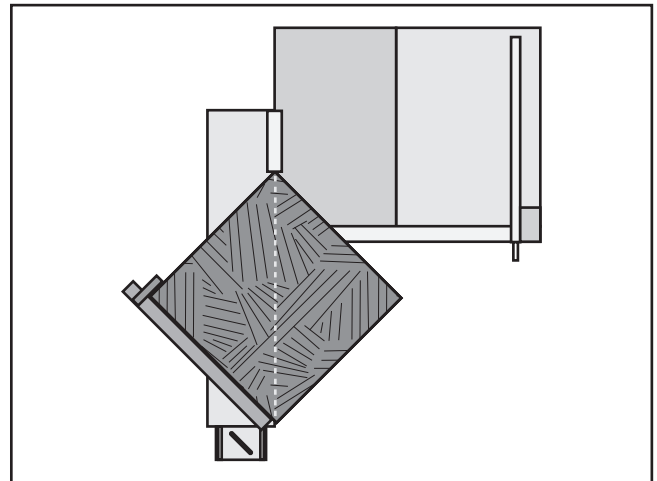

Figure 64. Fence set-up for 45°R cuts.
2. Position the miter fence at the desired angle for the cut and lock it in place. **Figures 64–65** show the miter fence set up for 45° cuts in both directions.